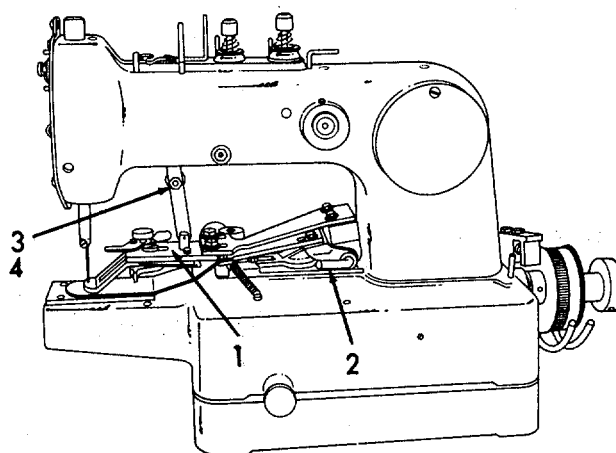

Figure 6-132. Button Clamp, Installation.
e. Installation (Refer to Figure 6-132).
- (1) Place button clamp (1) into position.
- (2) Install pin (2).
- (3) Install screw (3) and nut (4).